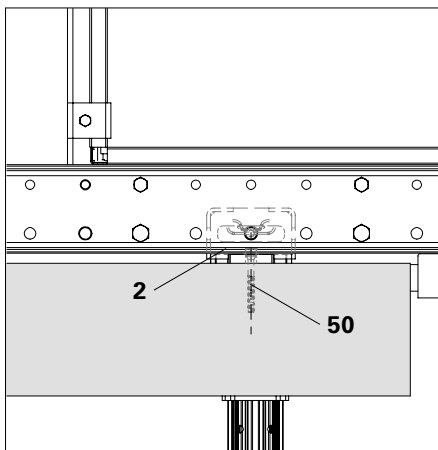

Fig. B1.05a
- Location fixation on the Slab Support Anchor Shoe RCS with the Anchor Bolt PERI 14/20 x 130 (50) and on the MULTIPROP MP using Dowels Ø 12 (48). (Fig. B1.05a + B1.05e).